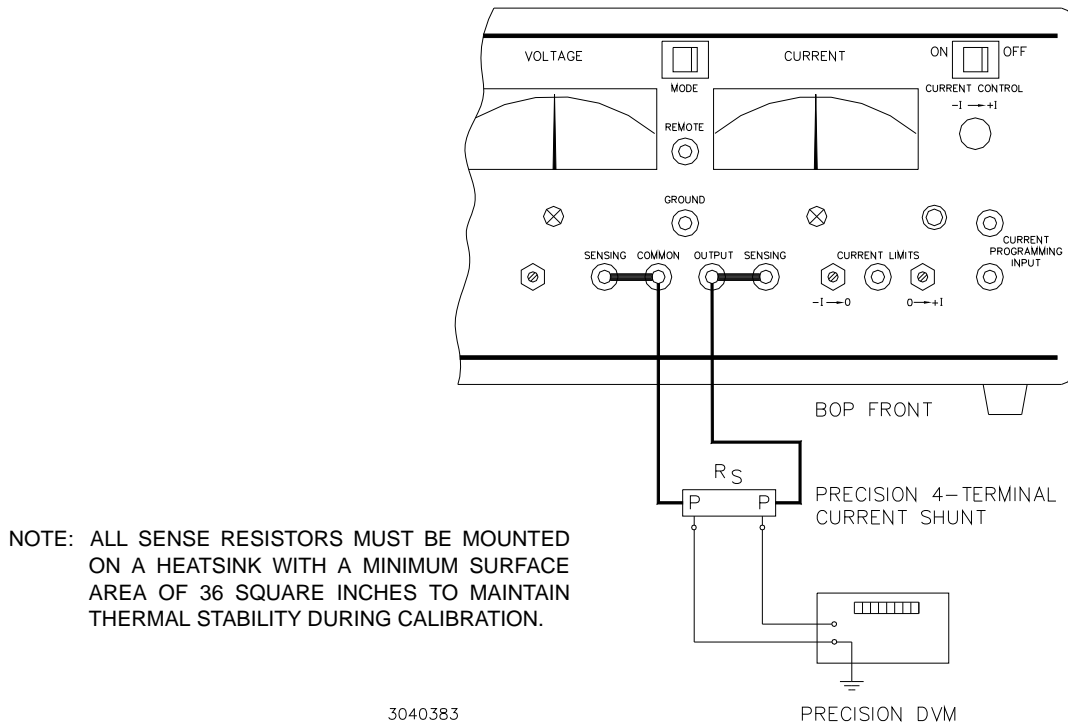

FIGURE 3-1. CURRENT SHUNT CONNECTIONS
- D. Refer to Figure 3-1 for equipment connections.
16. Send **CAL:ZERO** to prepare for current calibration. After sending the command, the BOP output will be set to zero volts. Connect the Kelvin type sense resistor to the BOP output using a heat sink capable of dissipating 10 times rated power of sense resistor. Connect the DVM to the sensing terminals of the Kelvin type sense resistor as shown in Figure 3-1. Table 3-2 provides suggested sense resistor values for various BOP current outputs, as well as the formula for calculating expected measured values and tolerances for any sense resistor where the precise resistance is known. Table 3-3 lists possible sources for obtaining the suggested sense resistors